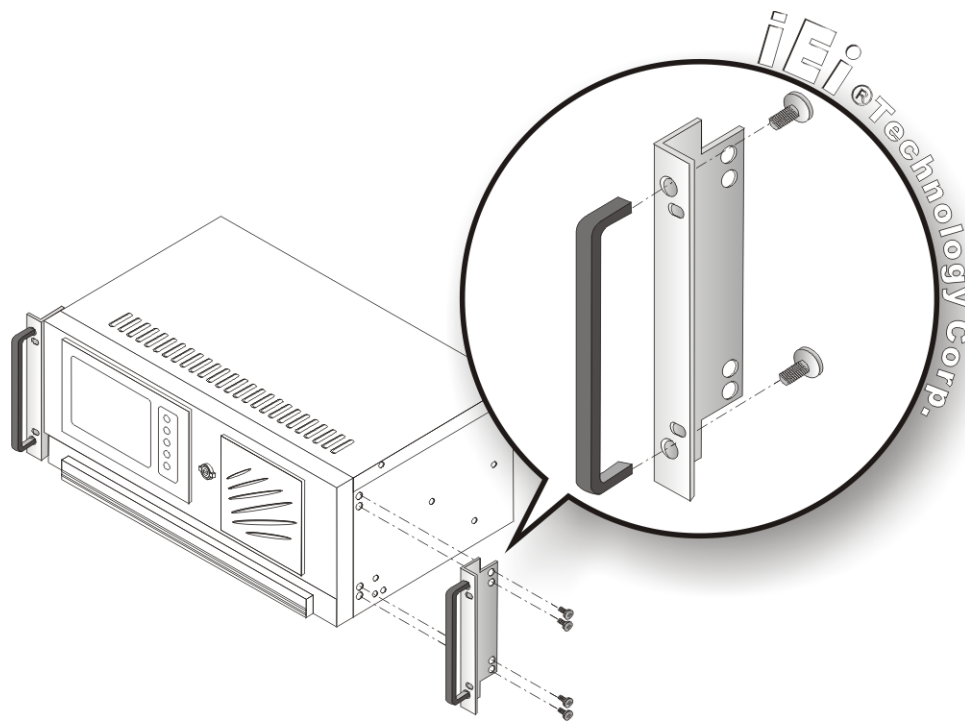

Figure 4-16: Rack Handle Bracket Assembly and Installation
Step 1: The left and right side panels of the workstation each have four screw holes for rack handle bracket installation. Assemble the rack handle brackets and secure them to the workstation. (See **Figure 4-16**)
Step 3: The left and right side panels of the workstation each have five screw holes for rack slides. Attach one slide section each to the left and right side panel of the workstation. (See **Figure 4-16**)